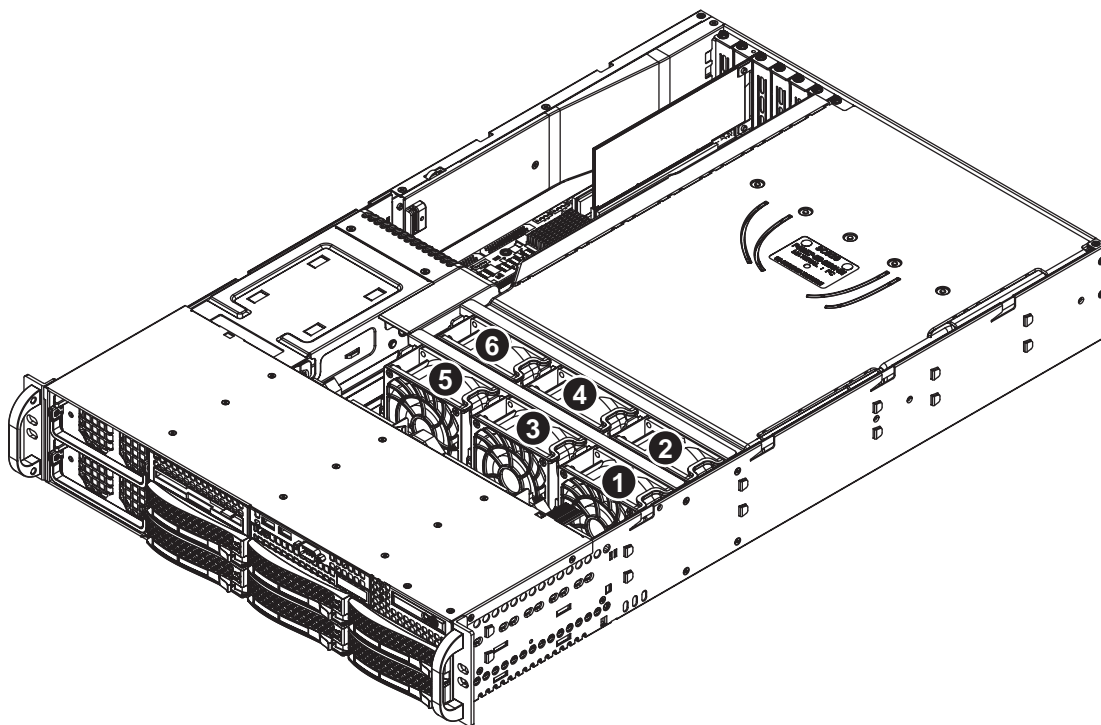

Figure 6-1 System Cooling Fan Locations
- 7. The fan identification number for each unit's physical location is shown in Figure 6-1.